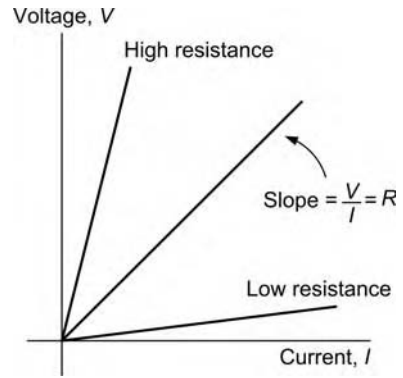

Figure 5.21 Relationship between voltage, V , current, I , and resistance, R .
where V is the p.d. (or voltage drop) in volts (V), I is the current in amperes (A) and R is the resistance in ohms (Ω) (see Figure 5.21).